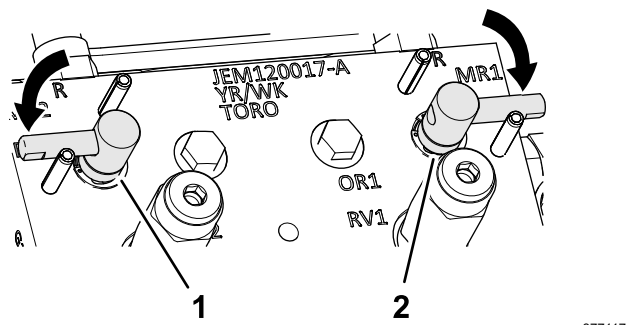

Figure 151
3. Move the backlap levers to the F (mow) position (Figure 151).